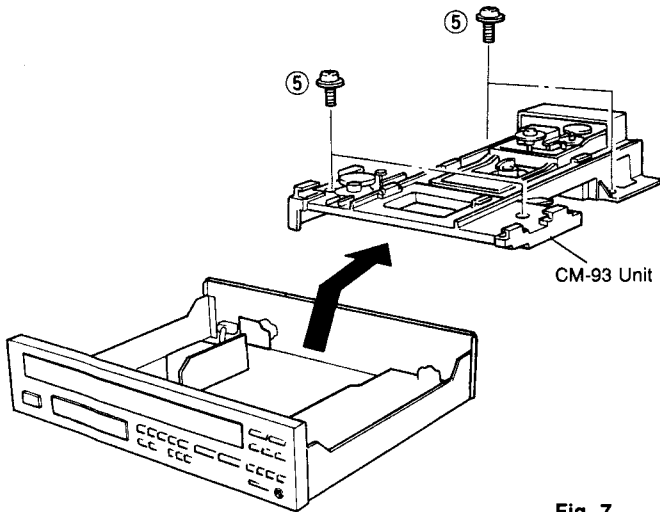

Fig. 7
- Remove 4 screws (⑤) as shown in Fig. 7.
- Take out the CM-93 Unit out slowly as shown in Fig. 7.